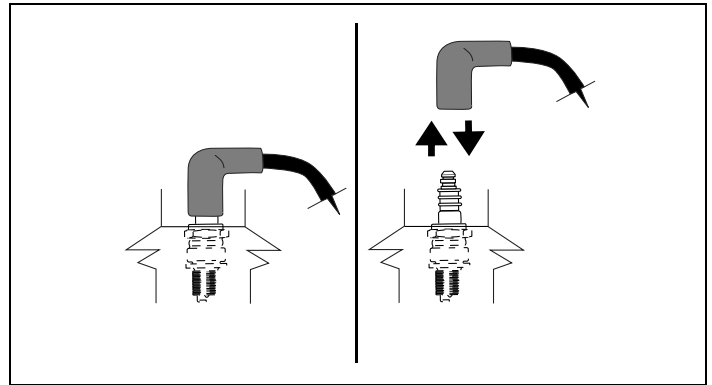

Figure 35. Disconnecting/Connecting Spark Plug
1. Carefully disconnect spark plug wire and keep it away from spark plug. See Figures 35 and 36.